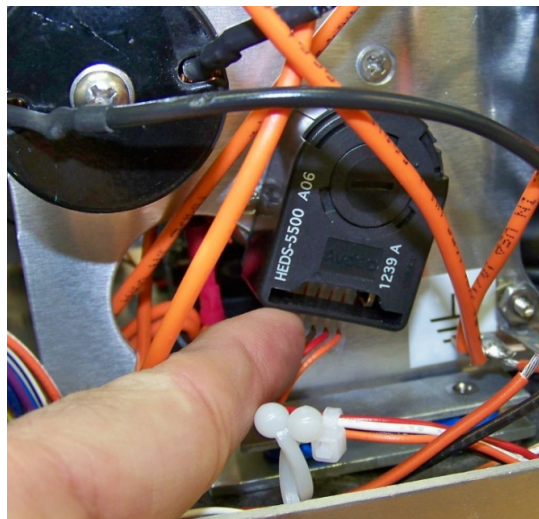

Figure 9-22 Encoder
10. Plug in the connector to the encoder being careful not to bend any pins (Figure 9-22).